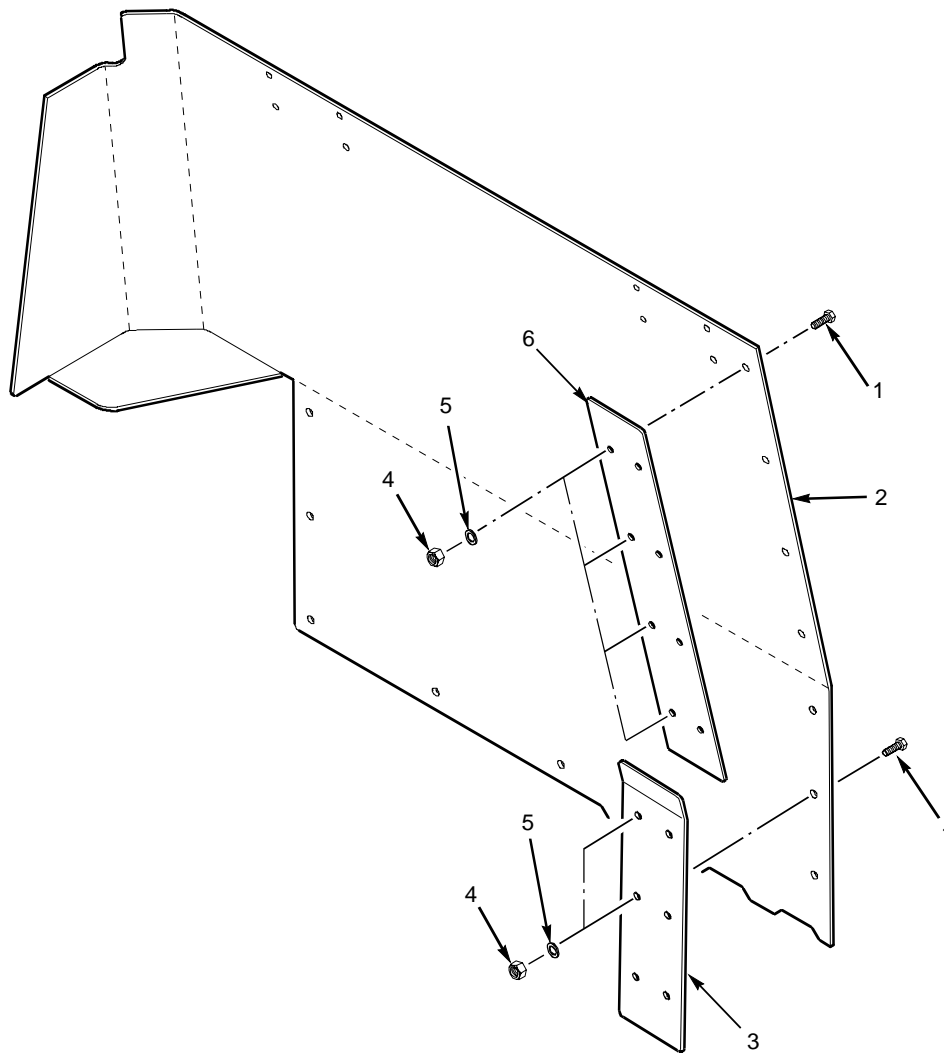

Figure 1-17. B-Partition Gap Strip Installation (2 Door Only)
- 2) Install B-partition gap strip as follows (see figure 1-17).
- a. Install upper B-partition gap strip (6) onto right B-partition assembly (2) securing with four capscrews (1), washers (5) and locking nuts (4).
- b. Install lower B-partition gap strip (3) onto right B-partition assembly (2) securing with two capscrews (1), washers (5) and locking nuts (4).
- c. Torque capscrews (1) to 37 lb ft (50 N•m).